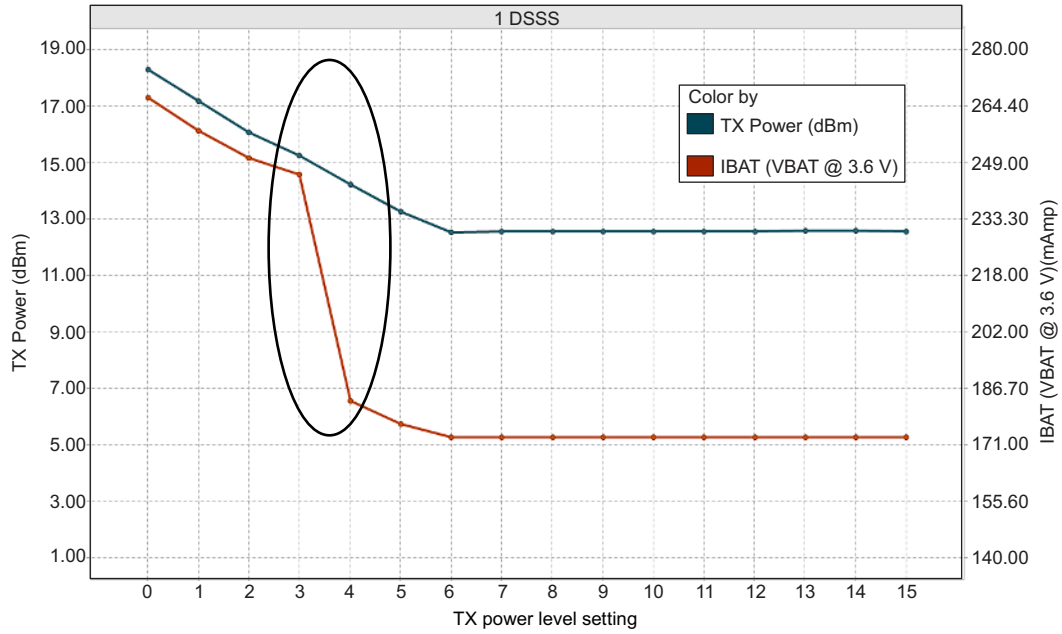
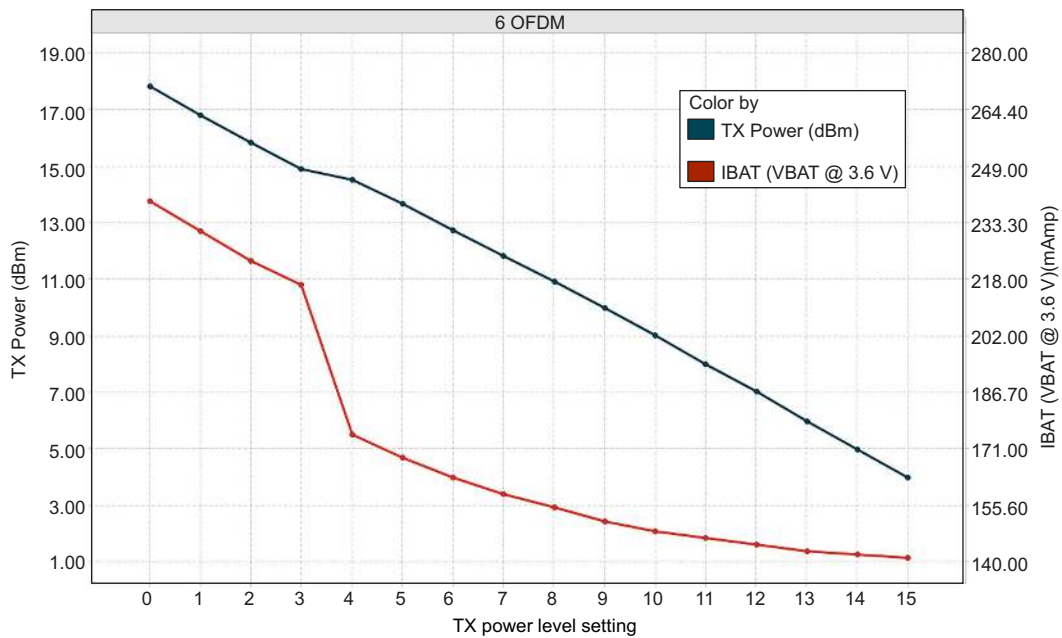
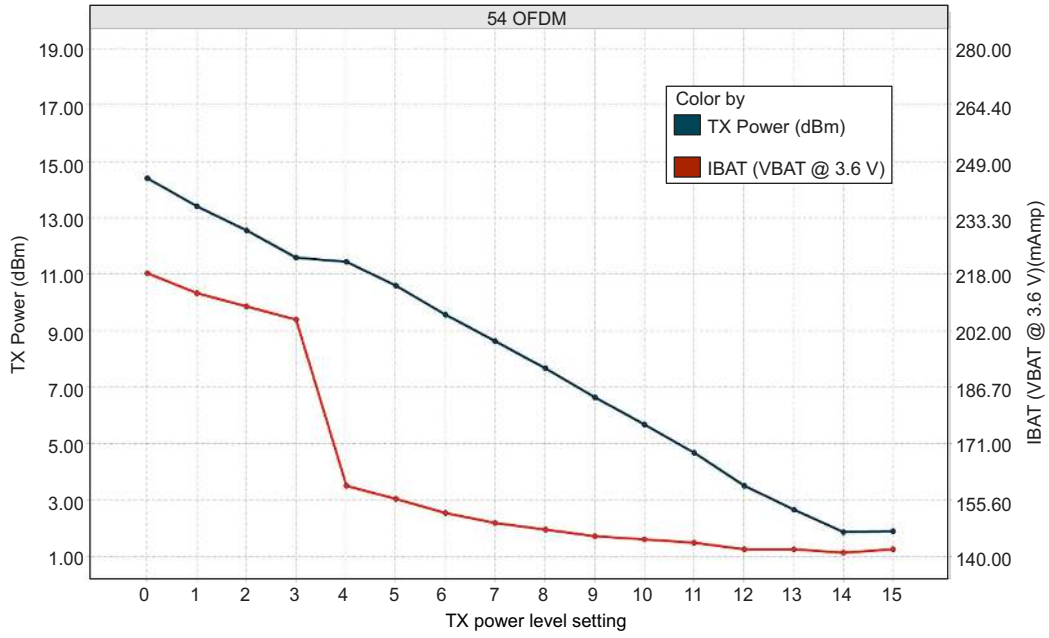

Figure 8-1. TX Power and IBAT vs TX Power Level Settings (1 DSSS)
Figure 8-2. TX Power and IBAT vs TX Power Level Settings (6 OFDM)
Figure 8-3. TX Power and IBAT vs TX Power Level Settings (54 OFDM)
- (1) TX power level = 0 implies maximum power (see Figure 8-1, Figure 8-2, and Figure 8-3). TX power level = 4 implies output power backed off approximately 4 dB.
- (2) The CC3130 system is a constant power-source system. The active current numbers scale based on the V_{BAT} voltage supplied.
- (3) DTIM = 1
- (4) The complete calibration can take up to 17 mJ of energy from the battery over a time of 24 ms. In default mode, calibration is performed sparingly, and typically occurs when re-enabling the NWP and when the temperature has changed by more than 20°C . There are two additional calibration modes that may be used to reduced or completely eliminate the calibration event. For further details, see CC3x20, CC3x35 SimpleLink™ Wi-Fi® and Internet of Things Network Processor Programmer's Guide.
- (5) The RX current is measured with a 1-Mbps throughput rate.
Figure 8-1, Figure 8-2, and Figure 8-3 show TX power and IBAT versus TX power level settings for the CC3130 device at modulations of 1 DSSS, 6 OFDM, and 54 OFDM, respectively.
In Figure 8-1, the area enclosed in the circle represents a significant reduction in current during transition from TX power level 3 to level 4. In the case of lower range requirements (14-dBm output power), TI recommends using TX power level 4 to reduce the current.